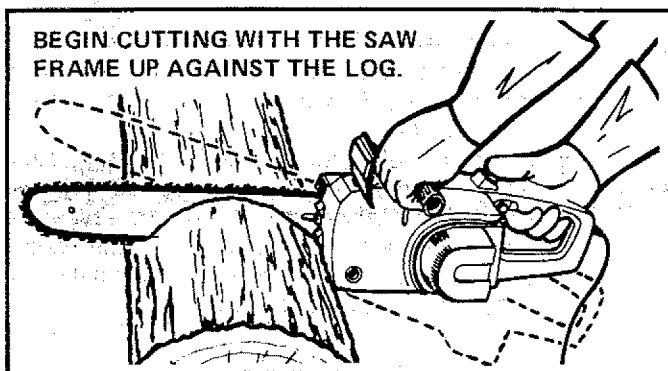

Figure 23
- Begin cutting with the saw frame up against the log.** Figure 23.